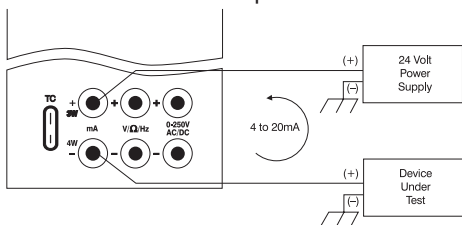

Figure 5.
2. Connect the device as shown in figure 5.